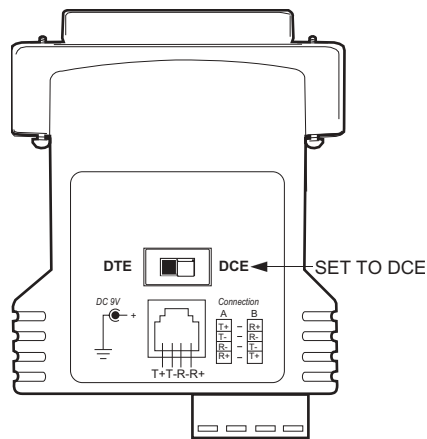

Figure 6. Bottom View of the RS-422 Converter
- Set the DTE/DCE switch located on the bottom of the converter to DCE (refer to Figure 6).